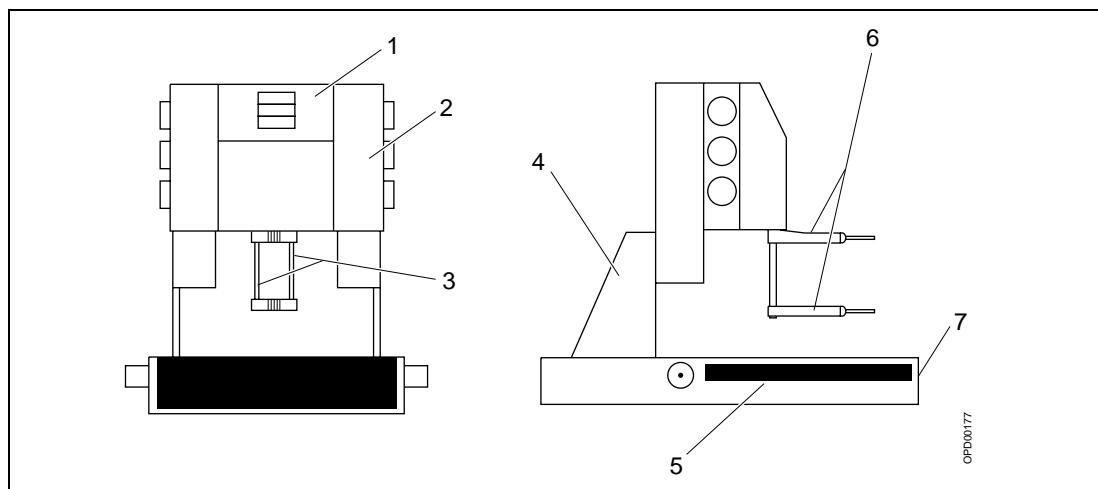

Fig. 3 Measuring points on the biopsy unit
1. Measure the resistance between the ground connection of the stand and the measuring points on the biopsy unit according to Fig. 3. Use a sharp-pointed tool to penetrate the finishing paint. Fill in your values in the test protocol for protective earth measurement (see Appendix 3).